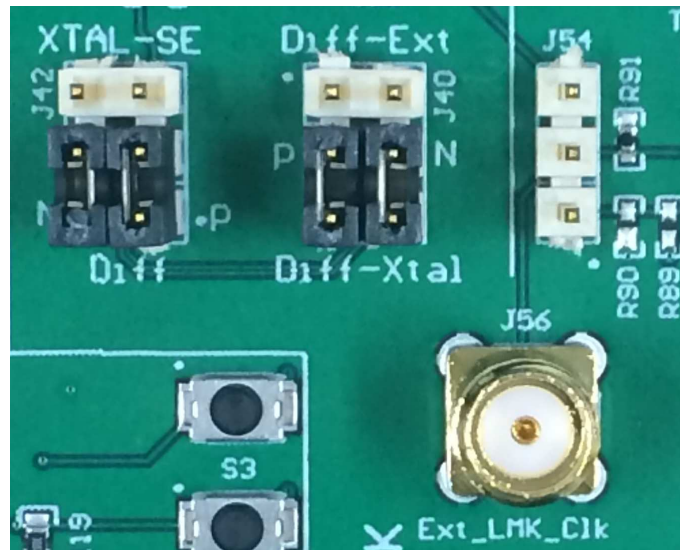

Figure 9. Clock Configuration on AFE EVM for LVDS Capture
1. Verify the clock configuration by matching J42, J40, and J54 to Figure 9. Provide a 160-MHz, +13-dBm clock to J56.